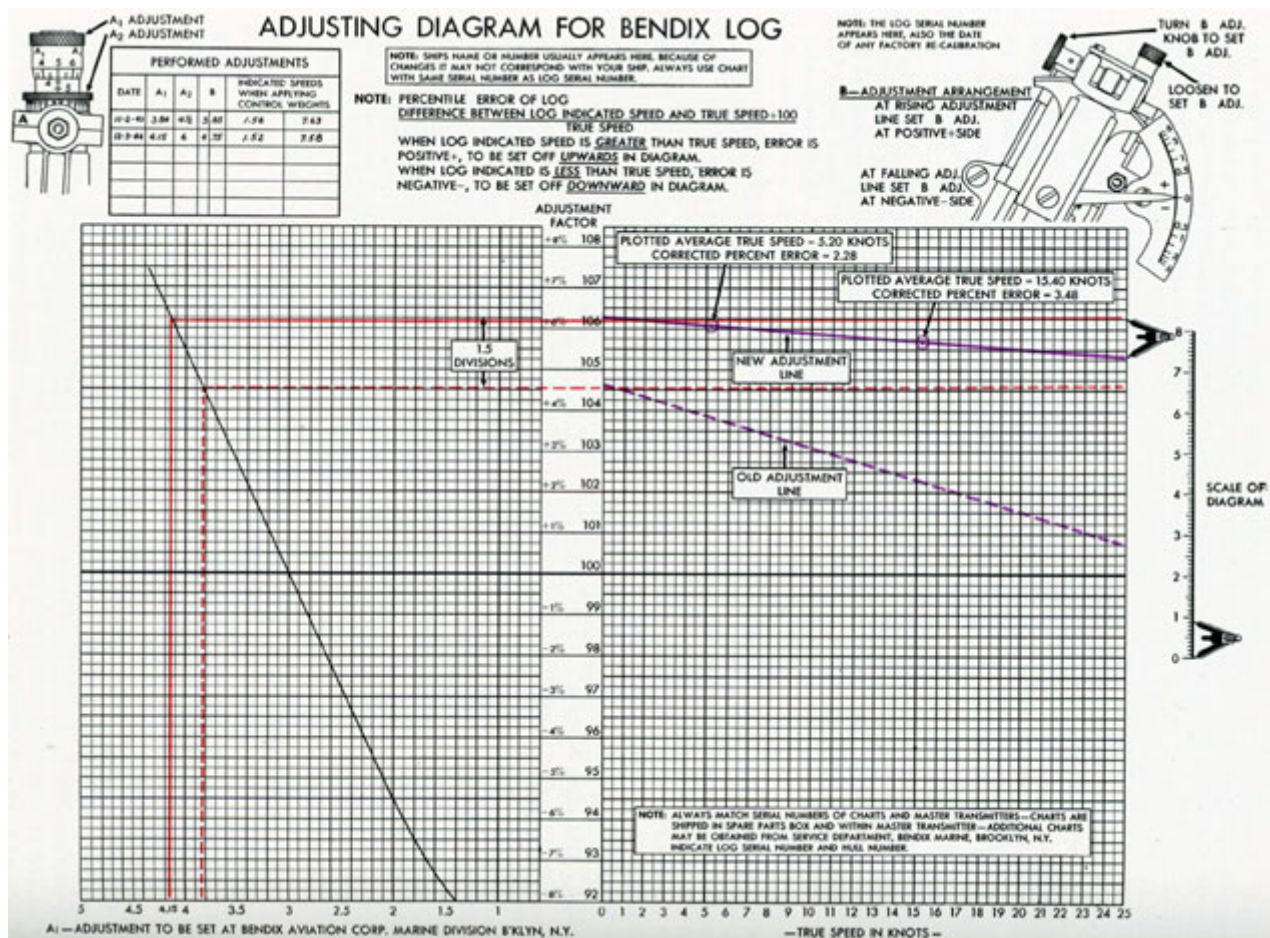

Figure 14-7. Adjusting diagram for recalibrating the Bendix log.
**14B2. Preparation.** The preparations described in Section 14A2 for making a measured mile run should be made in this case with the important exception that the A1-, A2-, and B-adjustments are to be set at the same values as last recorded in the performed adjustments table at the upper left-hand corner of the adjustment diagram (Figure 14-7).
**14B3. Operation and calculation.** (See Figure 14-7). Make the trial runs and calculations as described for the measured mile runs in Section 14A3. Make one additional set of calculations as follows: On the adjustment diagram there appears an adjustment line for the previous trial run. This dotted blue line on the sample diagram (Figure 14-7), is the line from which all plotting and calculations will now be made. At the true speed of 5.20 knots, and at the true speed of 15.40 knots, adjustment factors of 103.8 and 102.25 respectively are obtained. This will then give values which are to be recorded in the following additional table:
**14B4. Plotting the new adjustment line.** (See Figure 14-7.) Plot the new adjustment line as follows: Add algebraically, the corrected percent errors to the adjustment factors at the true speeds obtained, and plot on the diagram as before (see Figure 14-7). In this example, the corrected percent error of 2.28 added to the adjustment factor of 103.8 equals 106.08, and the
corrected percent error of 3.48 added to the adjustment factor of 102.25 equals 105.73. Draw the new adjustment line through the plotted points obtained as shown by the solid blue line in Figure 14-7.
**14B5. Obtaining A1-value.** (See Figure 14-7.) Obtain the new A1-adjustment value by drawing a straight line horizontally across the diagram through the point at which the new adjustment line intersects the zero knot line, and extending it to the A-calibration curve as shown by the solid red horizontal line. Draw a vertical line (solid red) downward from the point at which the previously drawn solid red horizontal line intersects the A curve, to the base line. The reading at this base line point is the value at which the A1-adjustment is to be set (in this case, 4.15).
**14B6. Obtaining A2-value.** (See Figure 14-7.) Obtain the A2-adjustment value by counting the number of divisions between the points at which the old and new adjustment lines intersect the zero knot line on the diagram; in this case 1.5 divisions. That is, the A2-adjustment is to be turned 1.5 divisions from the previous setting in the same direction in which the A1-adjustment knob was turned.
**14B8. Setting and recording new adjustments.** Set the A1-adjustment knob to the value 4.15 obtained in Section 14B5. Set the A2-adjustment away from the previously recorded setting by the value 1.5 divisions as determined in Section 14B6. Be sure to turn the A2-adjustment ring in the same direction that the A1-adjustment knob was turned. Set the B-adjustment away from the previously recorded adjustment value by the amount of the value obtained, in this case minus 4.75, as determined in Section 14B7. Record the new adjustment values in the table at the upper left-hand corner of the adjustment diagram as shown in Figure 14-7. Hang the weight arm, and then the weight arm and the weight on the index screw of the main balance arm as shown in Figures 14-5 and 14-6. Record these speed indications in the performed adjustments table in the upper left-hand corner of the adjustment diagram as shown in Figure 14-7.